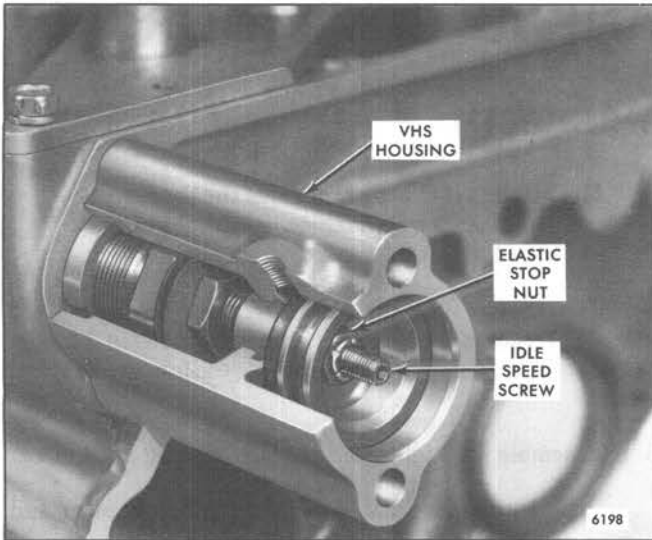

Fig. 2 - Adjust Elastic Stop Nut using Tool J 28598-A
- b. Adjust the elastic stop nut, while holding the idle screw stationary, until a slight drag is felt on the shim (Fig. 2). This adjustment is made easily with Tool J 28598-A. c. Remove the shim.